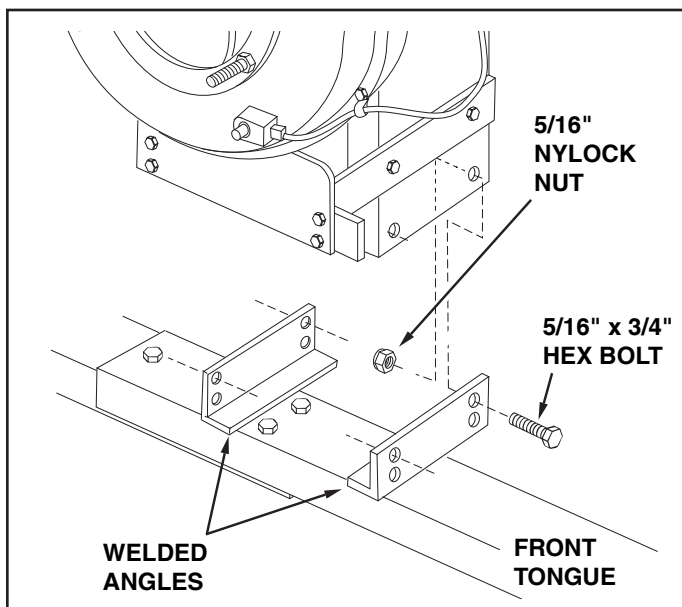

FIGURE 16
- Attach the engine/impeller housing assembly to the upper holes in the angles welded to the tongue. Use four 5/16" x 3/4" hex bolts and 5/16" nylock nuts. **Tighten.** See figure 16.